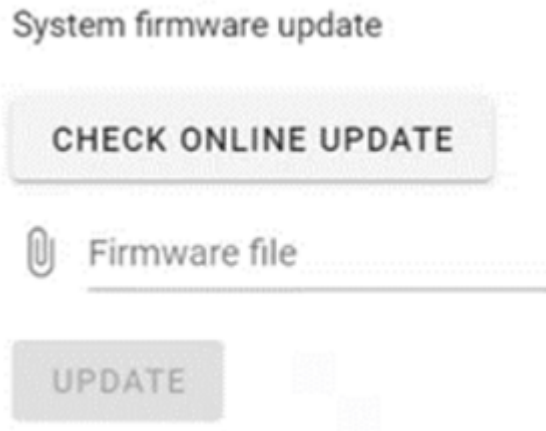

Figure 6. Dialog in the Erbessd gateway web page for updating firmware
5. Update the firmware of the Phantom Gateway: (see Figure 6).